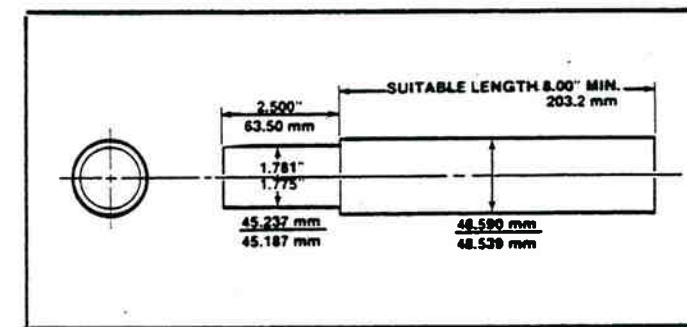
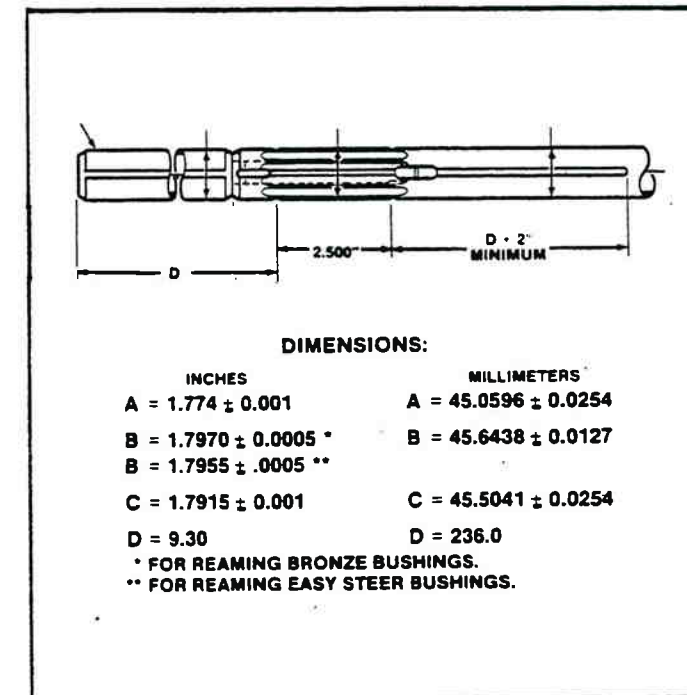

Figure 1-13. Tool - King Pin Bushing Removal & Installation.
Figure 1-14. Reamer - King Pin Bushing.
The tool shown in figure 1-13 should be used when removing or replacing the bushings. The tool shown in figure 1-14 should be used to size the bushings.
The tool shown in figure 1-13 and a press of at least 5-ton capacity is required to remove or install the bronze bushings in the earlier MC-9 front axle knuckle, or to remove or install the "Easy Steer" bushings in the front axle knuckles of the later MC-9 models.
4. Using the reamer shown in figure 1-14, finish the bushings to 1.7965-to-1.7975 -inch diameter. The bushings must also be in line with each other to within .001 inch. Refer to the sizing procedure described later in this section.
5. Using the reamer shown in figure 1-14, finish the bushings to 1.7950-to-1.7960-inch diameter. The bushings must also be in line with each other to within .001 inch. Refer to the sizing procedure described later in this section.